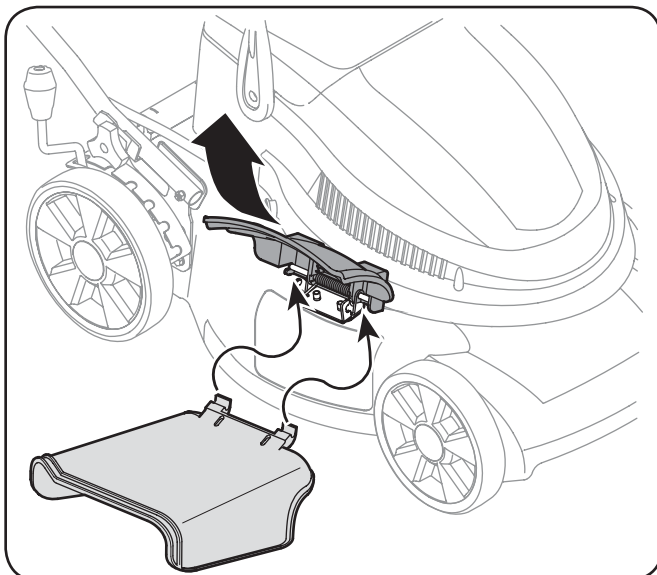

Figure 3-9
2. Slide the hooks of the side discharge chute under hinge pin on mulch baffle assembly. See Fig. 3-9.
3. Secure the tabs of the side discharge chute onto the hooks below the side mulching baffle. See Fig. 3-9.